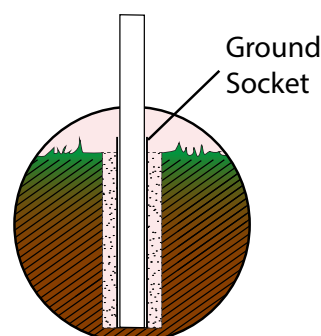

Fig 6.
7. Insert the pole into the ground socket. (Two persons are recommended for erection process) (Make sure the arm and flag can rotate freely clear of obstacles). (see fig 6)